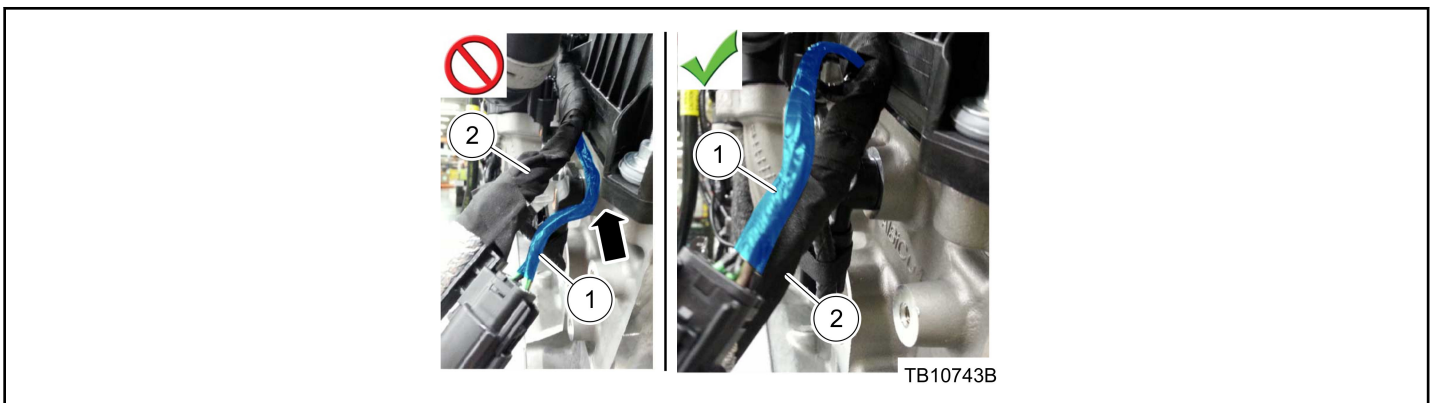

Figure 2 - Article 15-0160
18. Properly route the harness and make sure the HO2S11 wire harness takeout is positioned correctly to prevent future chafing. (Figure 2)